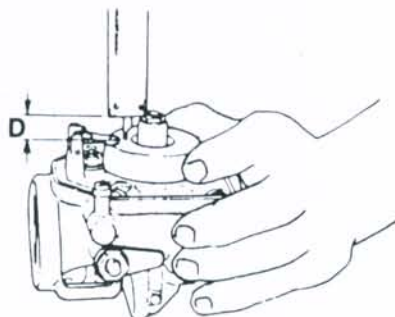

Fig. SZ11-2—Distance (D) for correct float level should be 10-12 mm (0.394-0.472 in.).
To check float level, remove float bowl (14) and invert carburetor body (1). Distance (D—Fig. SZ11-2) between main jet and bottom of float should be 10-12 mm ( $\frac{25}{64}$  to  $\frac{15}{32}$  in.). Bend float tang to adjust float level.